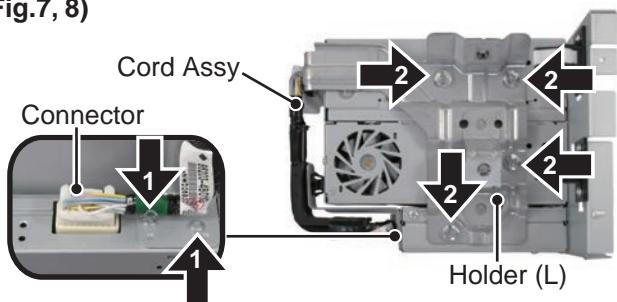

Fig.7
**● Removing the Holder and the Cable Assy (Fig.7, 8)
- Disconnect the Cable from the Connector.(Fig.7)
- 1 Remove the two screws.(Fig.7)
- 2 Remove the four screws and then remove the Holder (L) and Cord Assy.(Fig.7)